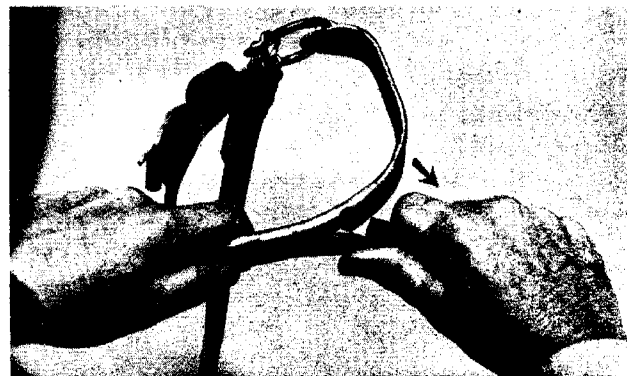

Fig. 20 – Honing Inner Surface
7.04 Hone the inner surface of the gaff by starting the stroke near the leg iron and continue over rounded curve of tip as indicated in Fig. 20. Stop the honing stroke before the stone slides off the end of the gaff to prevent dulling the tip. About 20 to 25 strokes of the honing stone should be enough. *Do not attempt to reshape the tip of the gaff.*